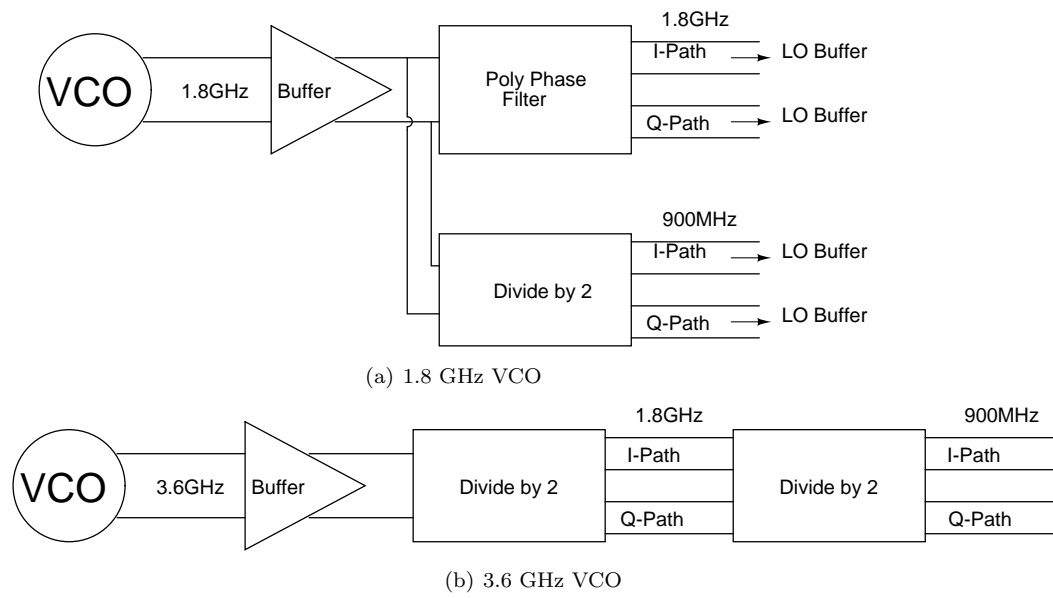

Figure 6: Testbench for VCO
3.3.1 Method One (see Fig. 6(a))
3.3.2 Method Two (see Fig. 6(b))